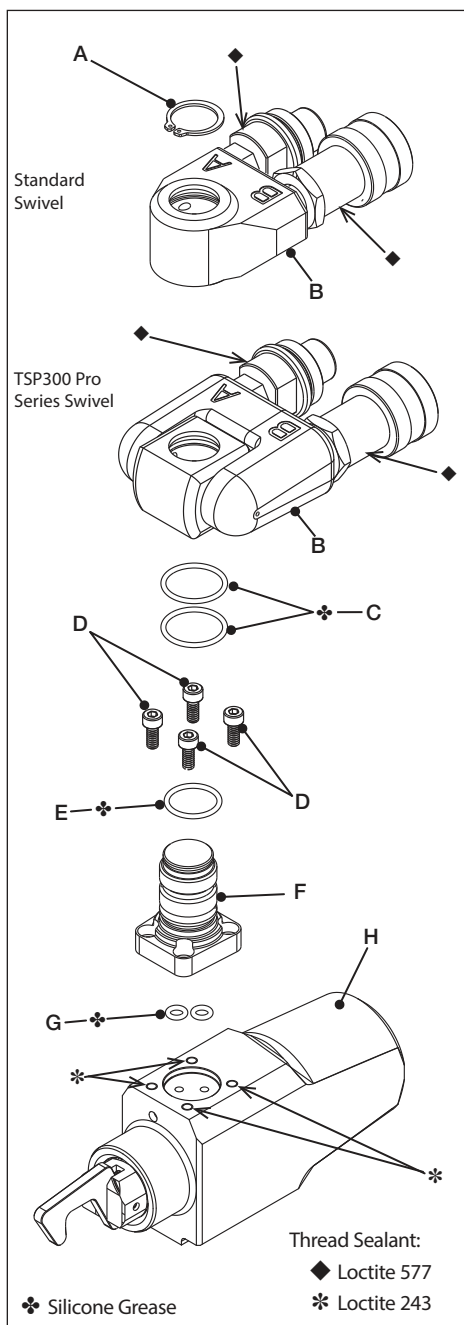

Fig. 16
### 5.3 Full Maintenance - Hydraulic Swivel and Drive Unit (Fig. 16, 17 and 19)
- Apply a small amount of Loctite 243 thread sealant to the threaded holes in the drive unit. See (\*) in Figure 16 for locations.
- Install two O-rings (G) into the ports on the base of the swivel post (F).
- Place the swivel post (F) on the drive unit (H), making sure that hydraulic ports are aligned. Be careful that O-rings (G) do not drop out or become pinched or cut.
- Install the degreased socket head capscrews (D) and tighten them as follows: